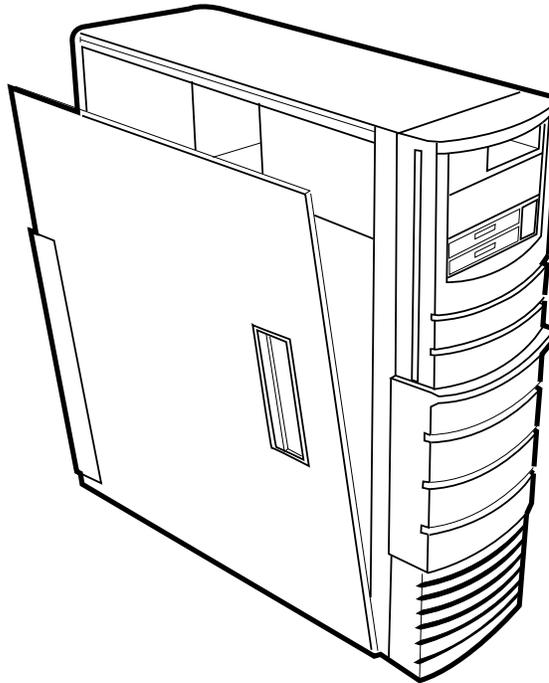

Figure A-17. Removing the Side Panel
4. Tilt the side panel outward and lift upward as shown in Figure A-17.